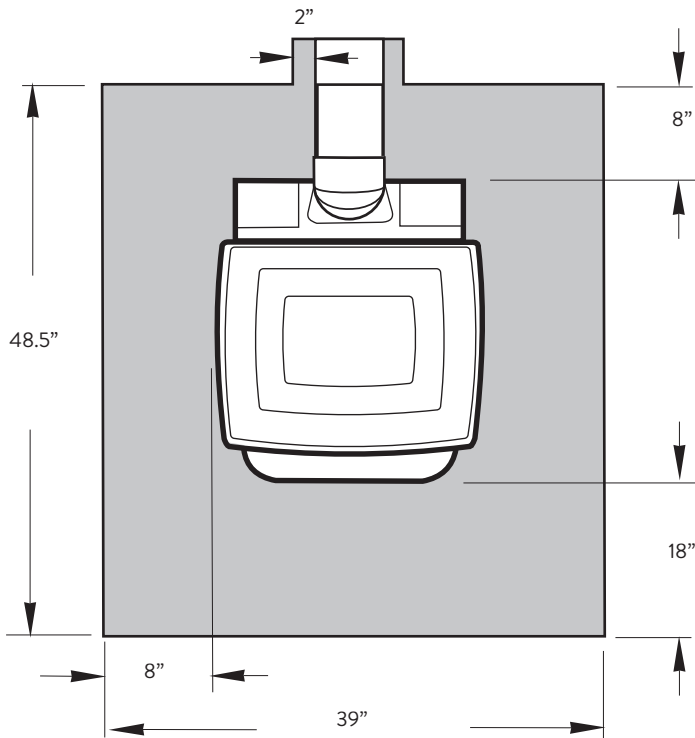

Figure 10. Floor Protection minimum dimensions, CAN. Rear Exit.
**IN CANADA: Floor protection must extend continuously 18" from the front of the stove and 8 in. from the sides and rear.** It must also extend 2 in. under any horizontal chimney connector. This results in a floor protector dimension of 39" wide x 48.5" deep for rear exit and 39" wide x 47.75" deep for top exit. See figs.10 and 10a.